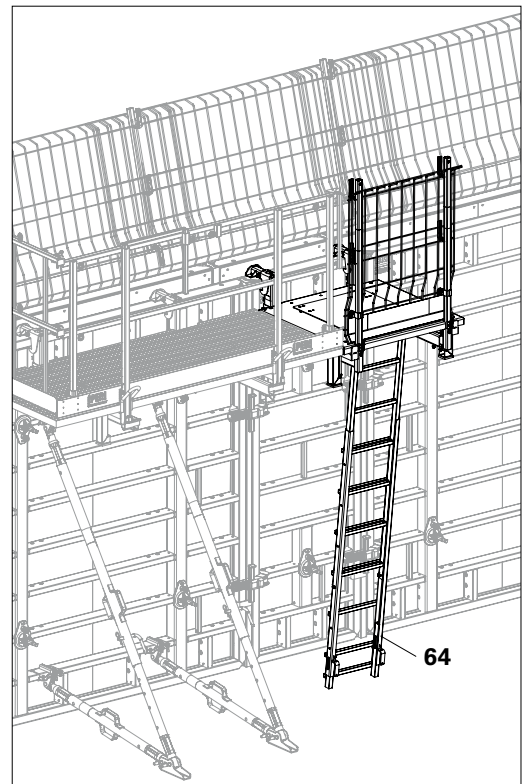

Fig. A7.16
- Ladder is now securely attached. (Fig. A7.16)